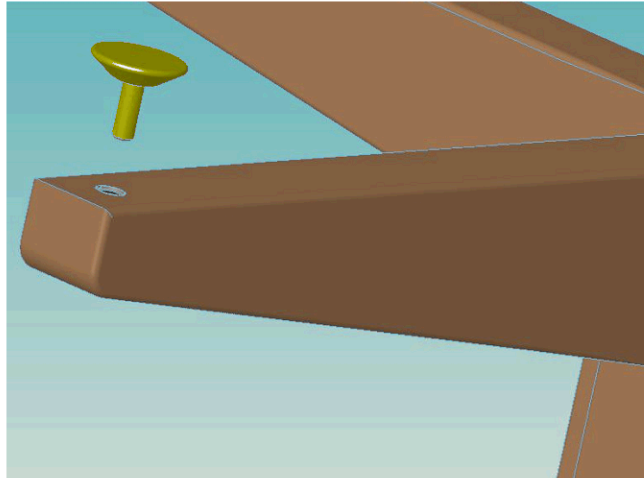

Figure 5 – Adjustable glide installation
1. For Freestanding tables; locate and install the four (4) adjustable glides into the table legs as shown in Figure 5. Finger-tighten glides to allow for adjustment and leveling after installation.